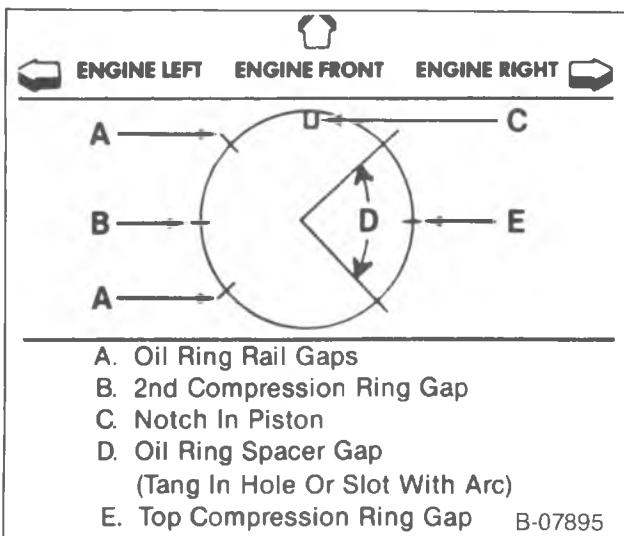

Figure 62—Piston Ring End Gap Location
→↔ Install or Connect (Figures 62 through 65)
- On 5.0 L and 5.7 L engines, the notch in the piston crown (figure 62) must face the front of the engine.